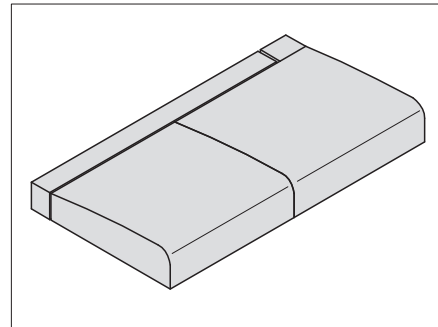
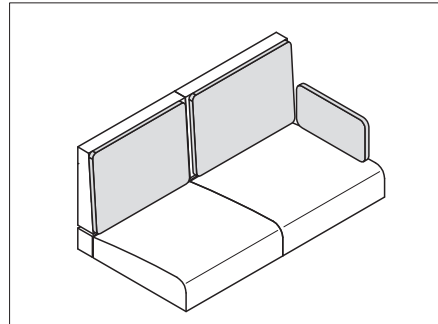

Fig. 217 Positioning seat cushions
Fig. 219 Cushion for back cushions
- Lay on the seat, backrest and additional cushions as shown in Fig. 217 to Fig. 219.